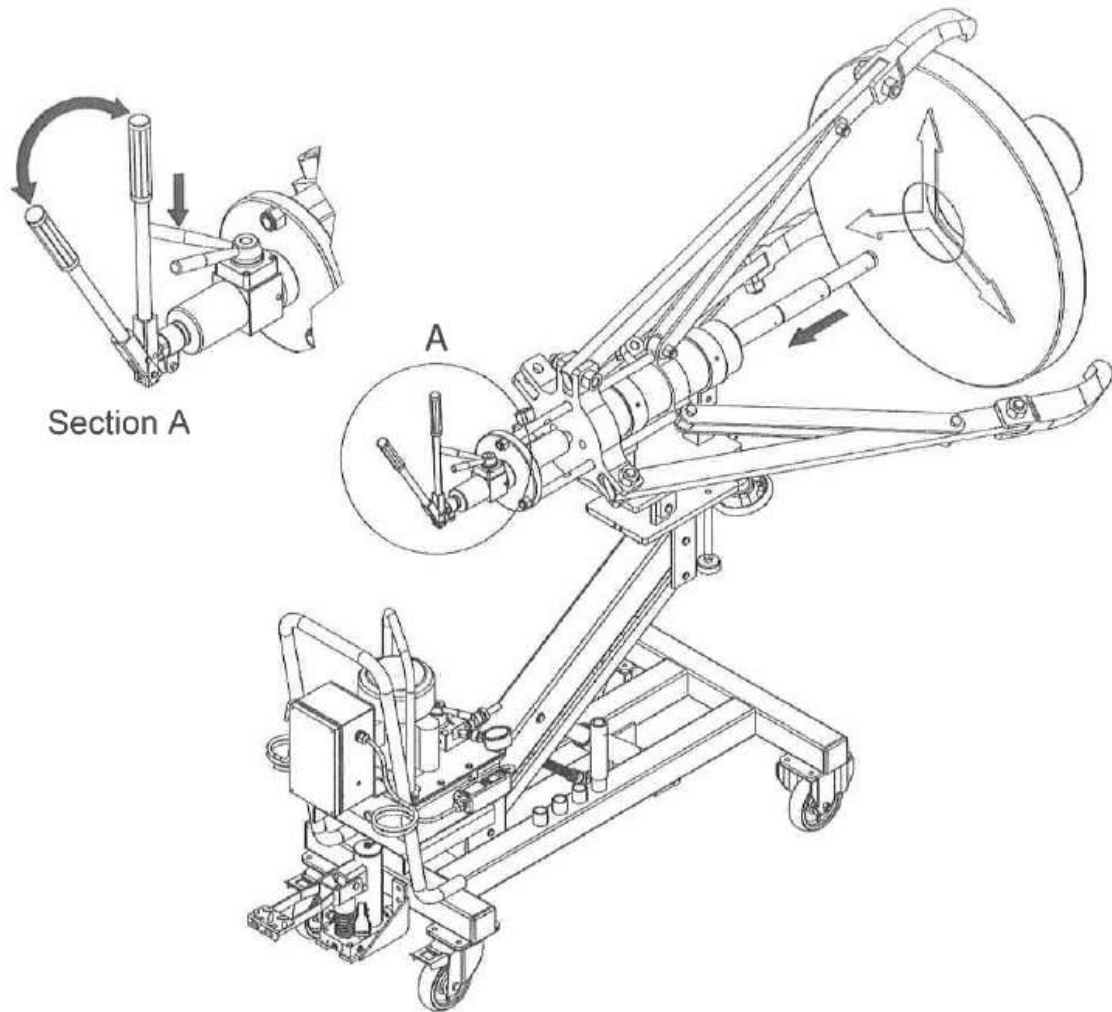

Figure 8 – Opening the Jaws
- 5.4.3 Rotate the control valve on the pump in a counter clockwise direction to open the jaws (see Figure 8).